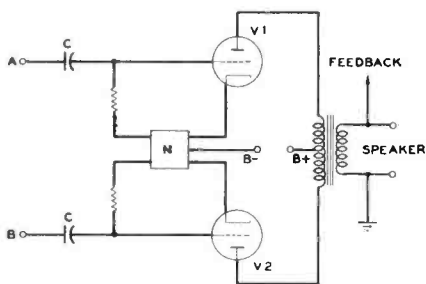

Fig. 1. Generalized output stage circuit.
Fig. 1 shows the basic circuit of a push-pull output stage. The coupling condensers (C) which usually are con-